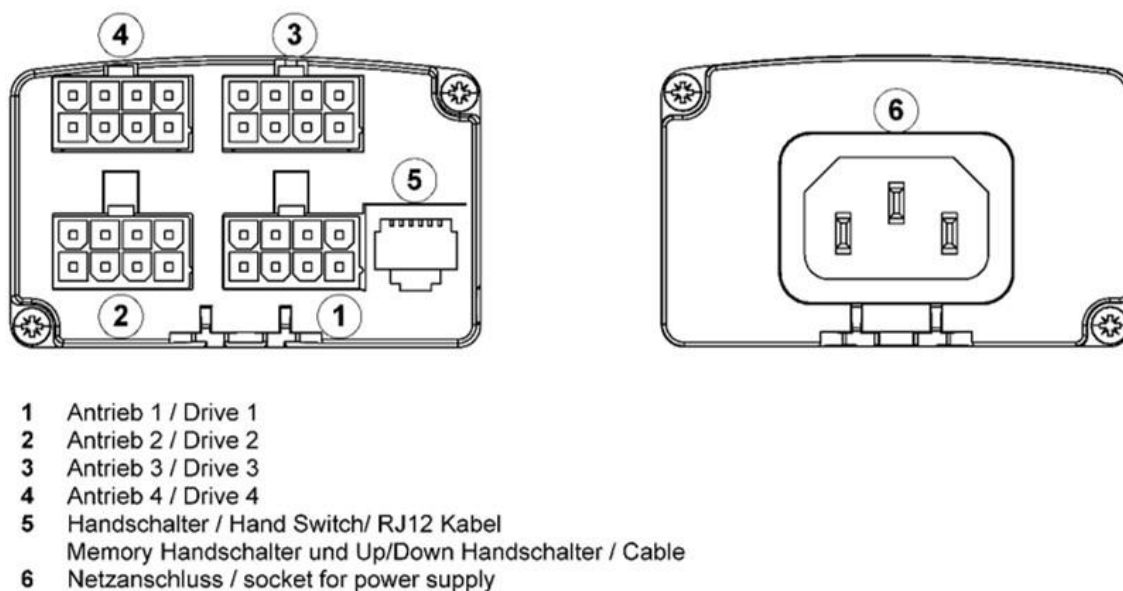

Figure 19 Connections of the electrical controller
- ➔ Connect the plug of the lifting elements with electrical controller (Figure 19; connection No. 1-4)
- ➔ Connect the plug of the manual switch to the electrical controller using the appropriate input (Figure 19; connection No. 5)
- ➔ Connect the power cable to the appropriate input of the electrical controller Figure 19; connection No. 6)
- ➔ For the synchronous operation of the system, a RJ12 cable must be connected to each controller (Figure 19, connection No. 5). Then both RJ 12 cables of the controllers have to be connected to the Sync-Y-Adapter (Figure 20 connection No. 1 and No. 2).
- ➔ Connect the power cables to the appropriate input of the electrical controller (Figure 19; connection No. 6)